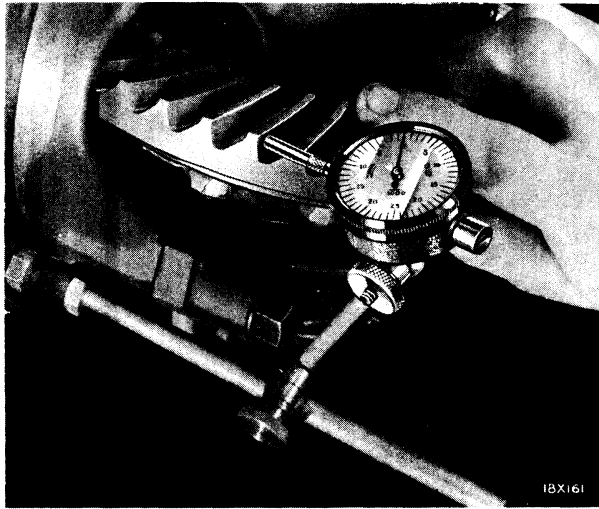

Fig. 15—Checking Backlash Between Drive Gear and Pinion (Tool C-430)
- (1) Make sure the companion flange or yoke nut is tight and has not moved from its original position.
- (2) Check the backlash between the drive gear and pinion gear. See Figure 15. (Backlash should not be less than .006 inch or more than .008 inch.)
- (3) Inspect the surfaces of the drive gear and